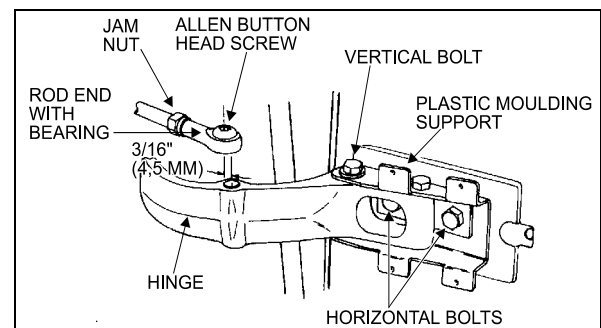

FIGURE 22: UPPER DOOR HINGE
2. Remove the Allen button head screw and the washer retaining the rod end with bearing to the upper hinge. See figure 22.